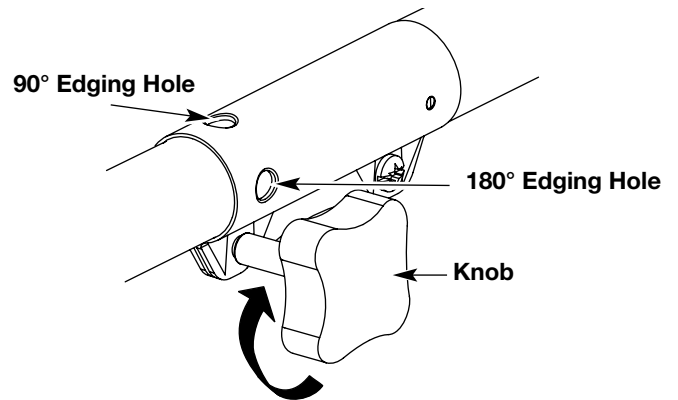

Fig. 3
3. Turn the knob clockwise to tighten (Fig. 3).
For edging when using the straight shaft trimmer add-on, lock the release button of the cutting attachment into the 90° edging hole or the 180° edging hole (Fig. 3).